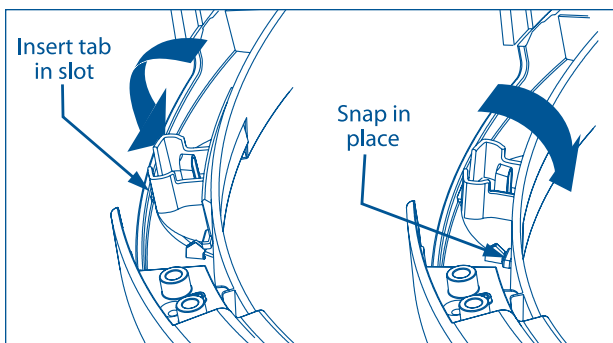

Figure 2-33.
2. Grasp the hole plug between finger and thumb and insert the tab into the retaining slot. (See Figure 2-33)